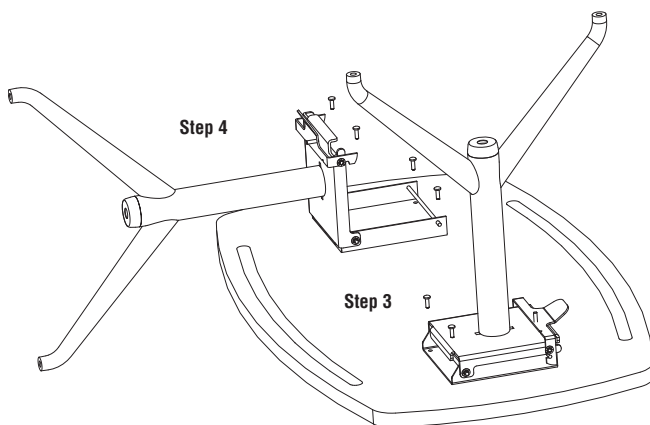

Figure 1
2. Unpackage appropriate table base and refer to illustrations to the left for proper base/leg orientation. Set the base in place on the underside of the work surface aligning attachment holes with threaded inserts in the work surface tops as shown (Figure 1).
3. Using two attachment screws, secure the hinge side of the bases on each side (Figure 1).
4. Open the hinged base mechanisms and complete base attachment using the remaining 8 screws (four per side) (Figure 1).